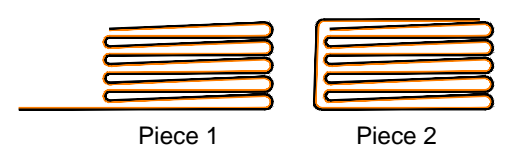

FIGURE 2
1. ONCE FIRST AND SECOND PANEL ARE UNROLLED, FLIP THE TOP FOLD OF PIECE1 TOWARDS THE BUNKER STARTING END, (FIGURE 2)